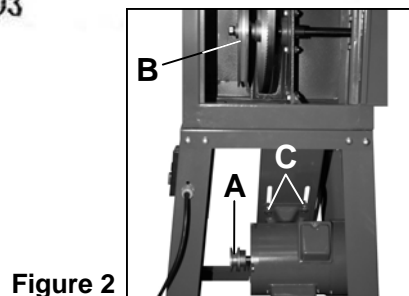

Figure 2
Once the base is assembled, attach the Drive Belt (Part # 55) to the motor wheel (A) and to the Spindle Wheel (B) in the compartment directly above. If the two wheels don't line up properly, loosen the four bolts (C) holding the motor in place and slide the motor up or down, depending on need. Once the wheels line up, retighten the bolts. (Figure 2)